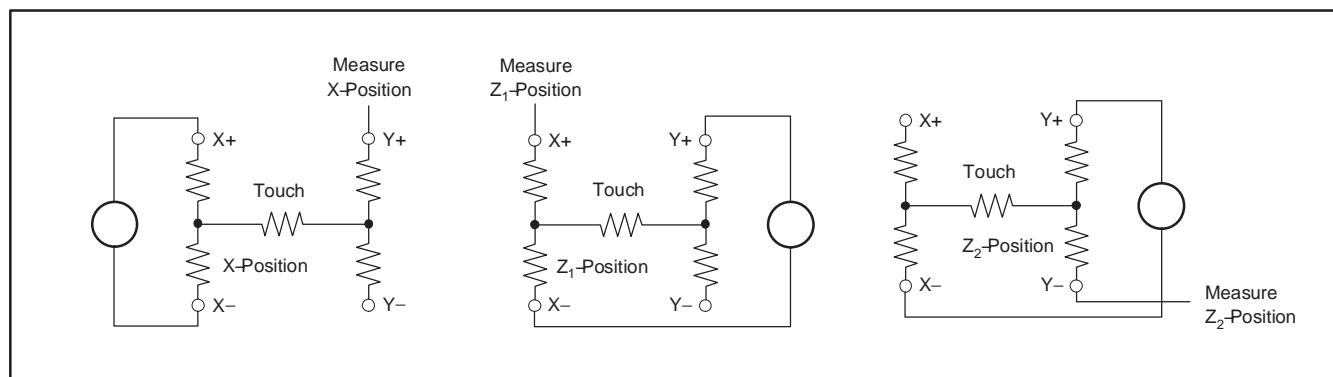

Figure 8. Pressure Measurement Block Diagrams
Measuring touch pressure can also be done with the TSC2046. To determine pen or finger touch, the pressure of the touch needs to be determined. Generally, it is not necessary to have very high performance for this test; therefore, the 8-bit resolution mode is recommended (however, calculations will be shown here in the 12-bit resolution mode). There are several different ways of performing this measurement. The TSC2046 supports two methods. The first method requires knowing the X-plate resistance, measurement of the X-Position, and two additional cross panel measurements (Z_1 and Z_2) of the touch screen, as shown in Figure 8. Using Equation (3) calculates the touch resistance: